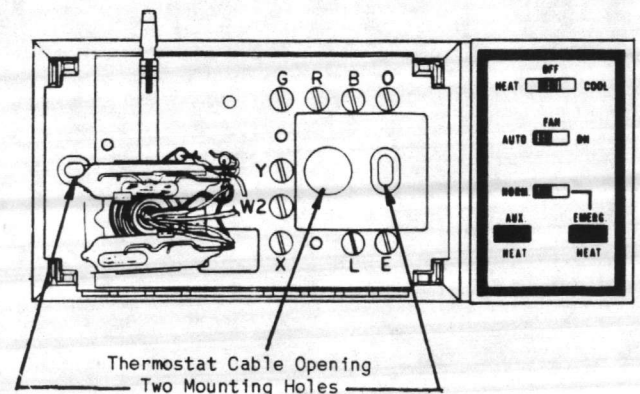

Figure 2. Thermostat with Cover Removed
3. Run low voltage thermostat wires to the location and pull about 4 inches through the wall opening and lead through large opening in thermostat indicated in Figure 2.
4. Fasten thermostat on wall or a horizontal outlet box using two elongated holes as indicated in Figure 2.